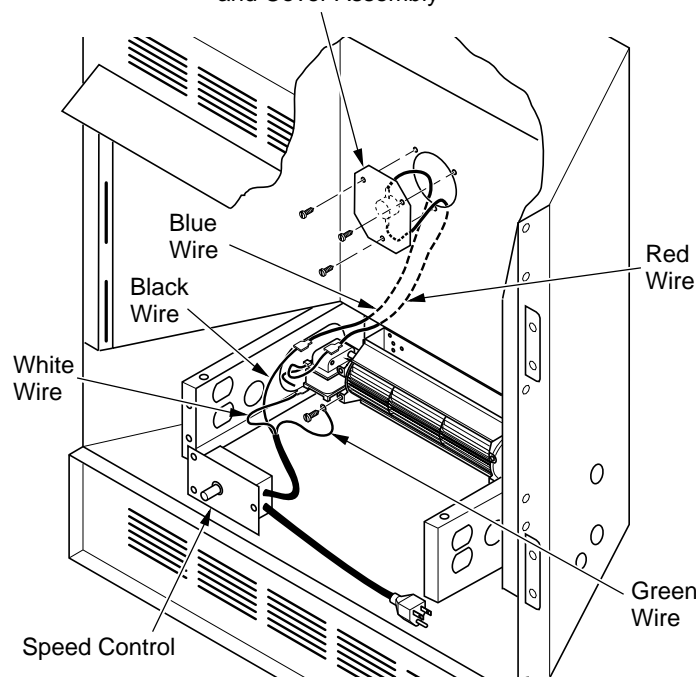

Figure 18 - Installing Switch and Cover Assembly, and Speed Control
2. Using screw provided, attach green ground wire from speed control cord to blower housing. Tighten screw securely (see Figure 18).
4. Remove the three screws (do not discard) and cover plate from center of firebox wrapper rear wall. Discard this cover plate (see Figure 18).
5. Mount the supplied thermostatic switch and cover assembly into firebox wrapper wall. Do this by feeding terminal ends of wire harness into the hole. Allow wires to fall to bottom of firebox cavity (see Figure 18).
6. Using three screws from step 7, attach switch and cover assembly to firebox wrapper rear wall. Tighten screws firmly (see Figure 18).
7. Firmly attach red wire from the thermostatic switch and cover assembly to either of the terminals on the blower motor (see Figure 18).
8. Firmly attach black wire from speed control cord to blue wire from thermostatic switch and cover assembly (see Figure 18).
9. Firmly attach white wire from speed control cord to remaining terminal on blower motor (see Figure 18).